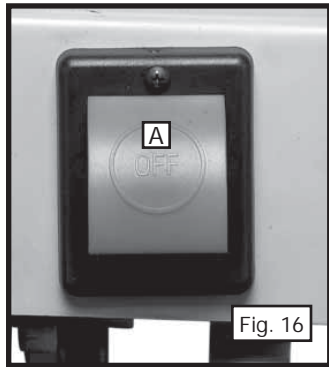
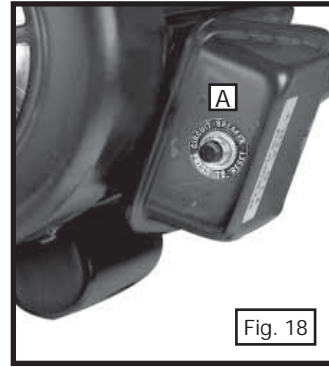

Fig. 16
Fig. 18
The on-off switch (A) Fig. 16 is located on the sander base. To turn the sander "ON", move the switch to the up position. To turn the sander "OFF", move the switch to the down position.
The motor supplied with your sander is equipped with a reset overload relay button (A) Fig. 18. If the motor shuts off or fails to start because of overloading (sanding too heavy, using a worn sanding belt or disc, using the sander beyond its capacity), or low voltage, turn the switch (A) Fig. 16 to the "OFF" position. Let the motor cool three to five minutes and push the reset button (A) Fig. 18. Start the motor.